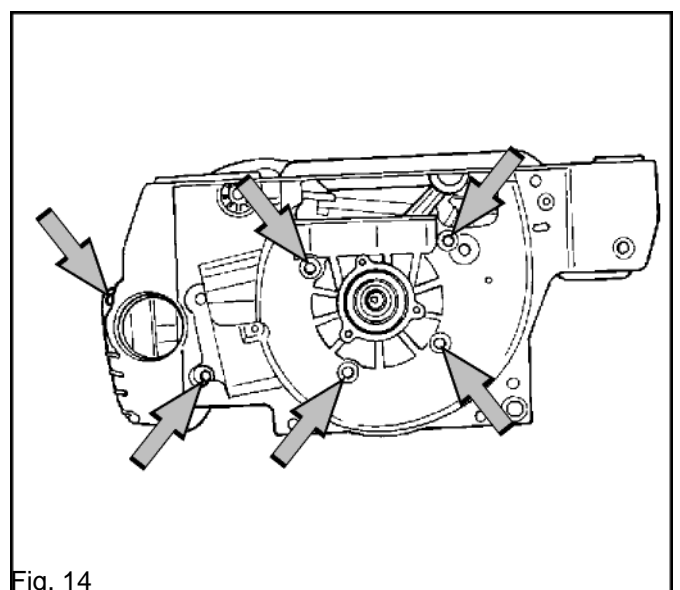

Fig. 14
6. Insert the six bolts and tighten them in rotation. Tighten them finally to 8 Nm. See fig 14.